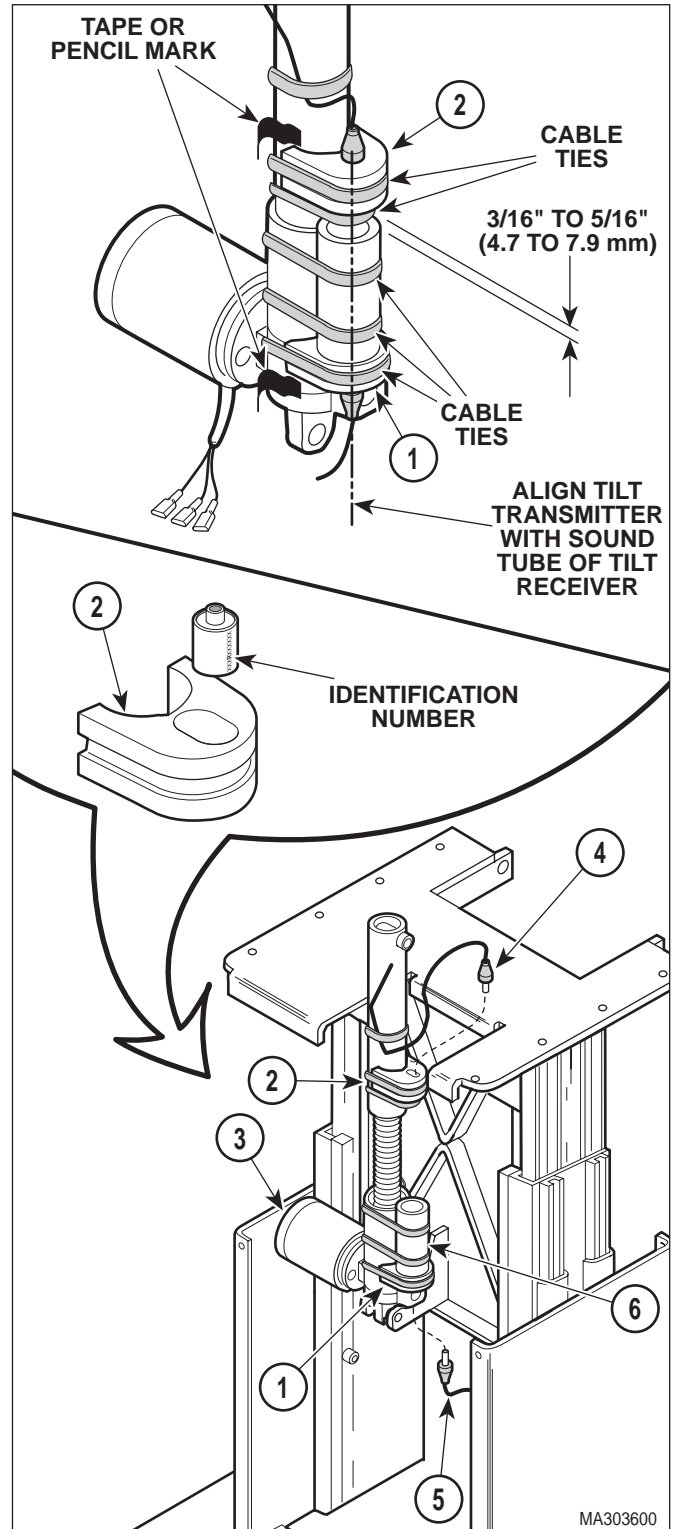

Figure 4-15. Tilt Actuator Receiver and Transmitter Removal / Installation
- (2) Unplug table power cord from wall outlet.
- (3) Remove shrouds as necessary (Refer to para 4.2 or 4.3).
- (4) Use pencil or tape to mark positions of tilt receiver (1, Figure 4-15) and tilt transmitter (2) on shaft of tilt actuator (3).
- (5) Disconnect cable (4) from tilt transmitter (2).
- (6) Cut two cable ties securing tilt transmitter (2) to shaft of tilt actuator (3) and remove tilt transmitter.
- (7) Disconnect cable (5) from tilt receiver (1).
- (8) Cut three cable ties securing tilt receiver (1) to tilt actuator (3) and remove tilt receiver.
- (9) Remove sound tube (6) from tilt receiver (1).